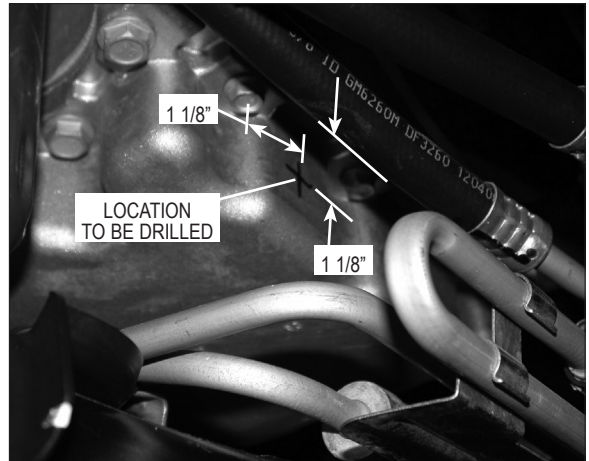

Fig. 3-a
- A. To provide an oil drain for the supercharger, it is necessary to make a hole in the oil pan. Mark the hole location by measuring 1-1/8" from the bolt as shown on the front of the pan, and 1-1/8" down from the oil pan mounting rail on the engine block. Center-punch the hole location to be drilled. (See Fig. 3-a.)